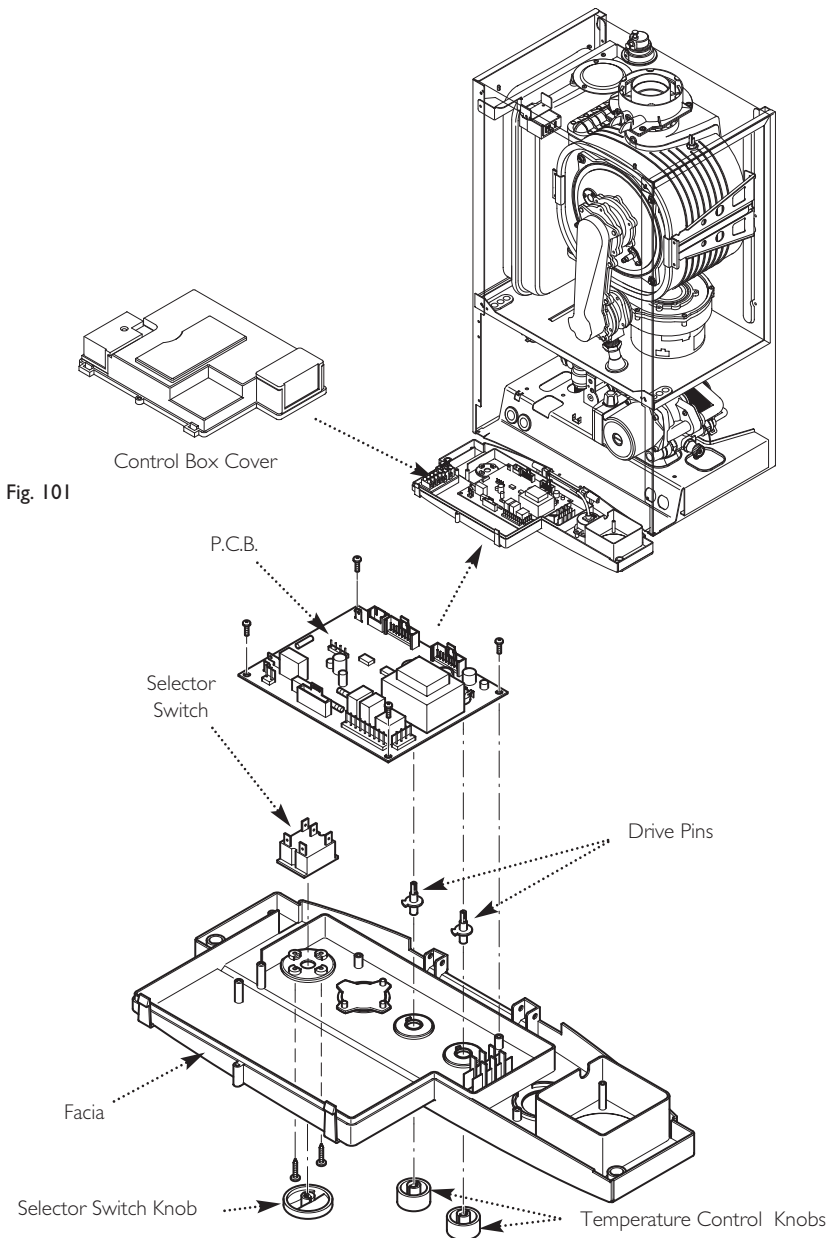

Fig. 102
14.20 P.C.B. (Fig. 102)
14.21 Selector Switch (Fig. 102)